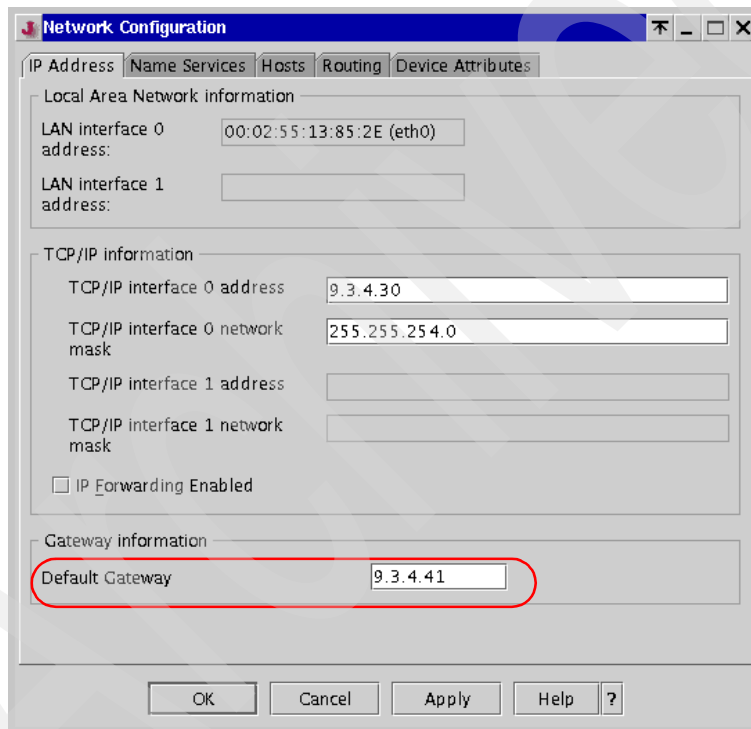
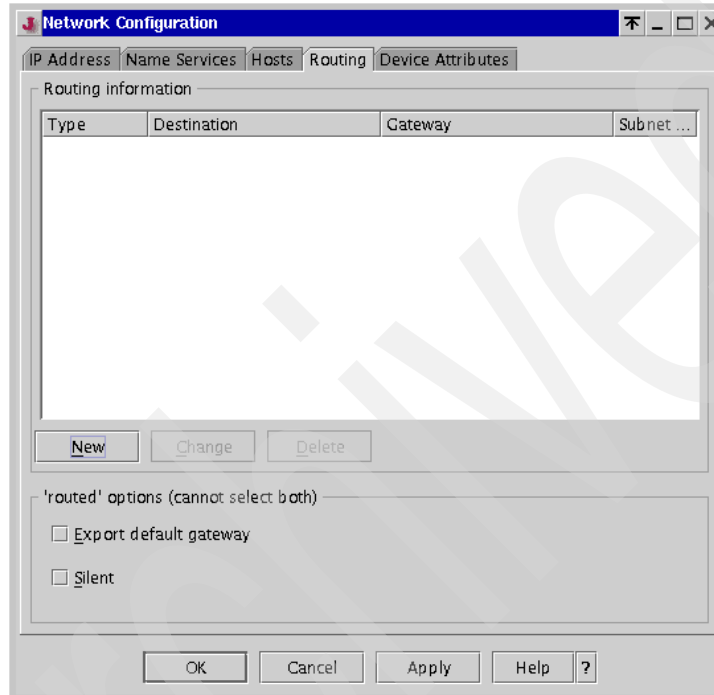

Figure 4-6 Network Configuration: IP Address tab
Figure 4-10 Network Configuration: Routing tab
2. In the Contents area, click the **Customize Network Settings** icon. The Network Configuration window opens, as shown in Figure 4-6.
2. Enter the IP address and network mask of the first Ethernet adapter in the TCP/IP interface 0 fields. If the HMC is equipped with two Ethernet adapters, then enter necessary information in the TCP/IP interface 1 fields, as shown in Figure 4-6 on page 84.
1. Select the Routing tab in the Network Configuration window, as shown in Figure 4-10.
Note: Do not enter the default gateway information using the window shown in Figure 4-10 on page 89. Use the Default Gateway field shown in Figure 4-6 on page 84.